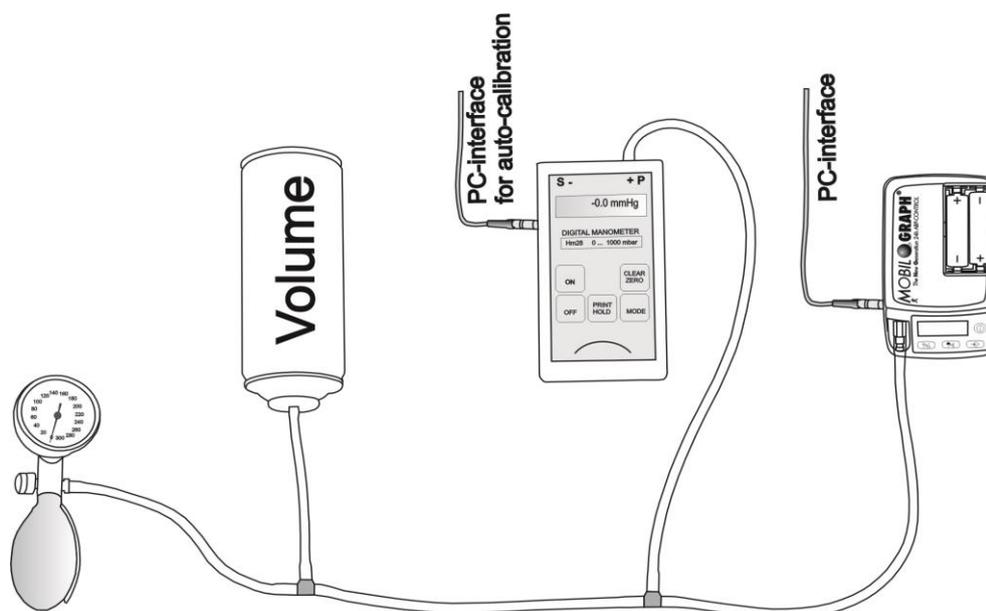

Fig. 12: Schematic presentation of the calibration procedure
- Connect the digital manometers, manual hand manometers and the **Mobil-O-Graph**[®] (turned off) to one pneumatic system (see Fig. 12).